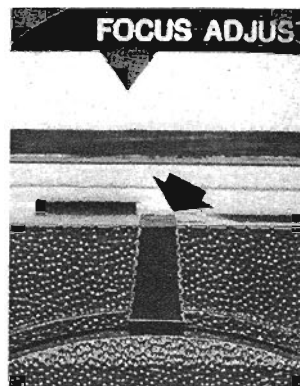

FIG. 1
8. Center light area on the screen vertically by turning elevation adjustment knob and horizontally by moving the projector. Move the focusing lever (Fig. 1) (Models 804, 805 and 806) forward or backward or turn focus knob (Fig. 2) (Model 807) clockwise or counter-clockwise until margins of the lighted area